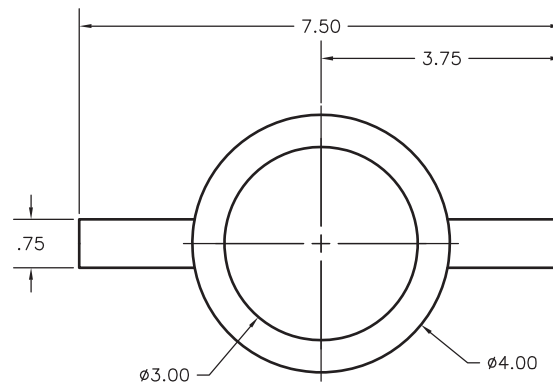

Fig. 11-12
- As the packaging engineer for a major manufacturer, you have been asked to design a support for a new product to hold it in place within the container. The drawing (Fig. 11-12) is not to scale. Create a drawing to scale according to the dimensions given. Keep track of your hours, because the time will be billed to the customer. Do not dimension, but save the drawing.